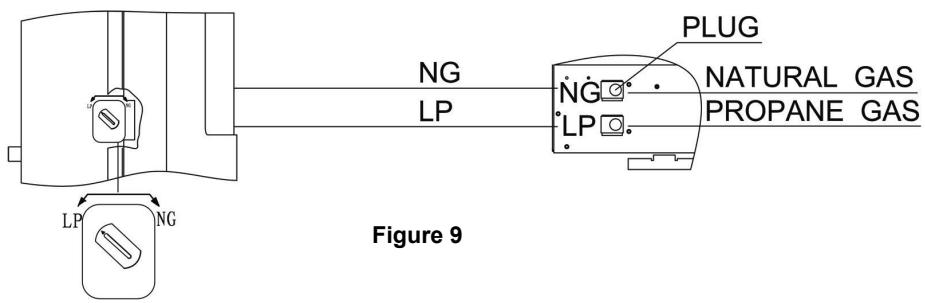

Figure 9
2. For propane gas, press in knob using a flat screw driver with a blade the thickness of a quarter and turn knob counterclockwise until the knob locks into the LP position, see Figure 9. Selection valve must be locked in the LP position. Do not operate heater between locked positions.